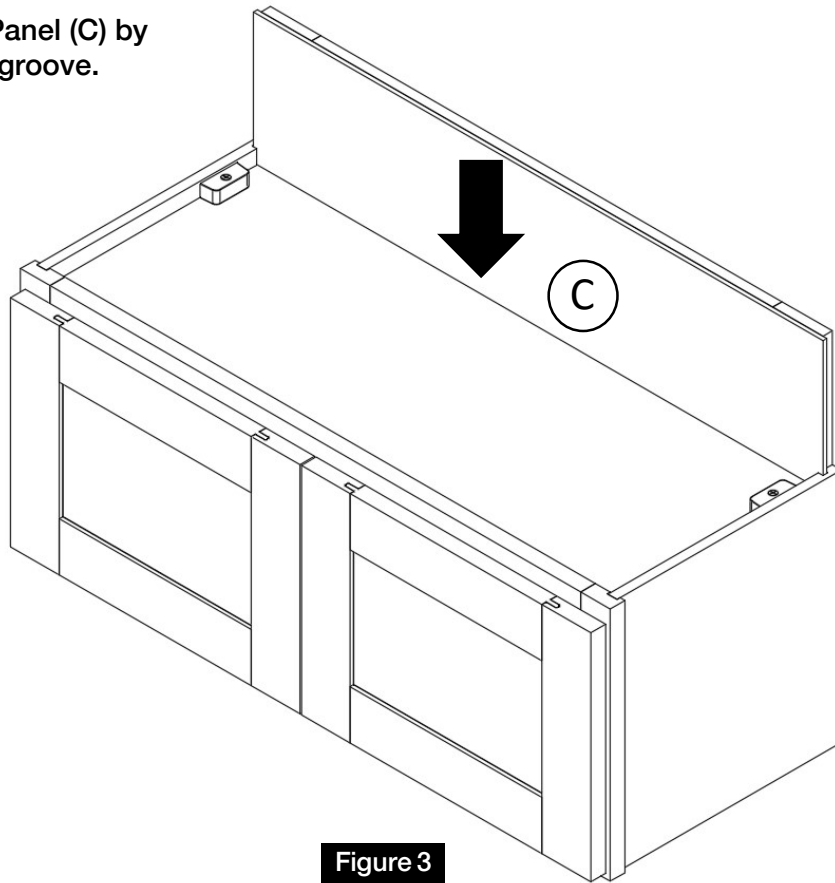

Figure 3
Install the Back Panel (C) by sliding it into the groove. (Figure 3)